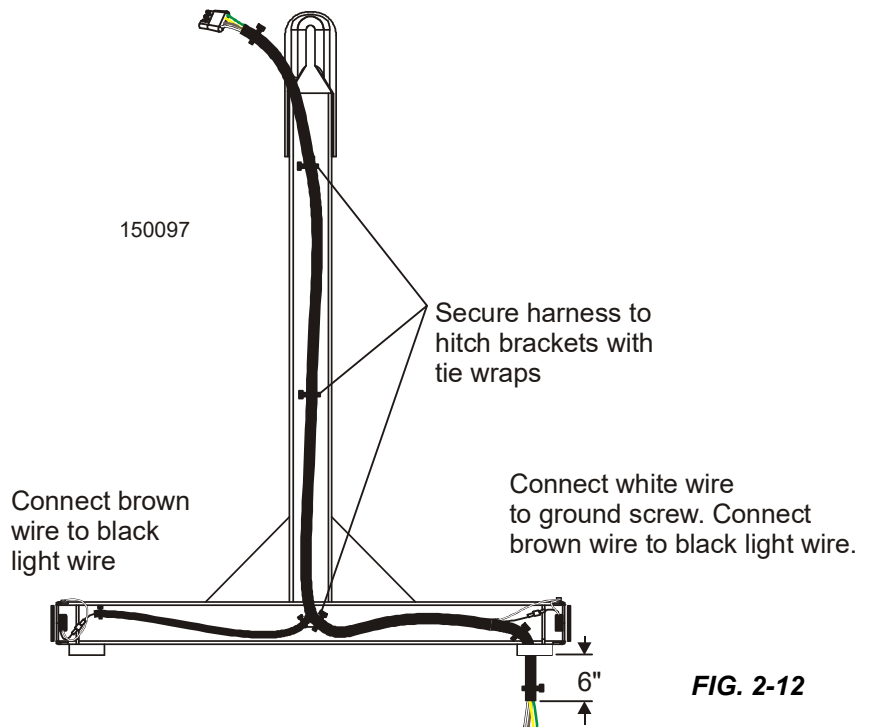

FIG. 2-12
3. Layout the harness on the hitch as shown in FIG. 2-12.